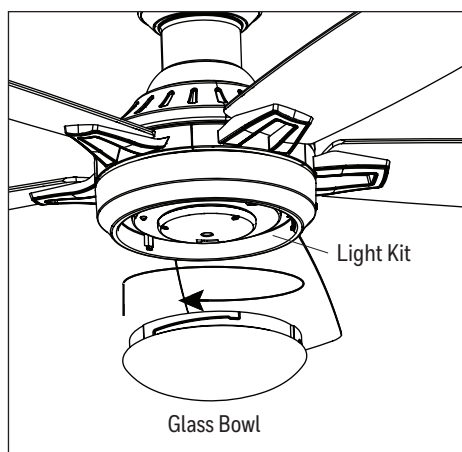

Figure 4.7
- Attach the glass bowl to the light kit by twisting the glass bowl firmly in a clockwise direction until it is secure. **CAUTION:** Avoid cross-threading the glass during installation. Improper installation could cause the glass bowl to be difficult to remove or fall, which could cause serious injury. (Figure 4.7).